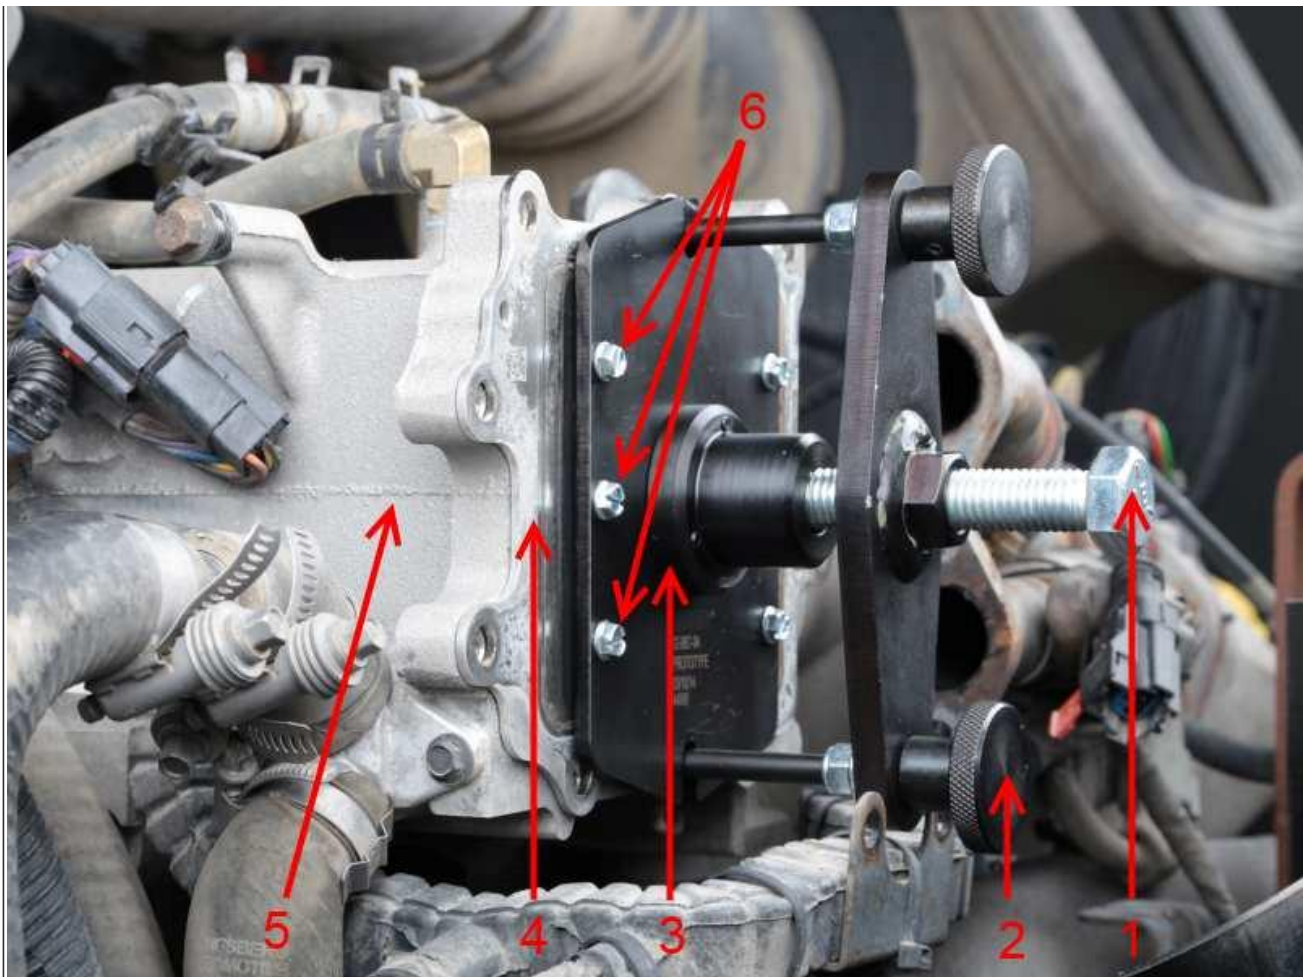

Figure 13: Low Temp EGR Core Extractor
29. Back out the bolt (**Figure 13**, Item 1) until the core pulls loose (typically 3/4" from the housing).